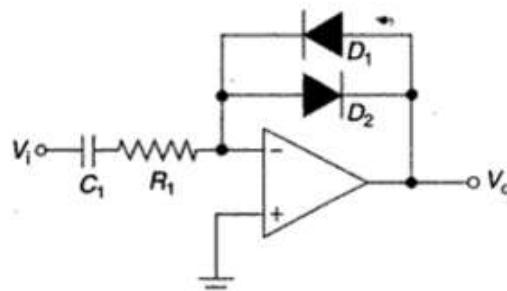

Figure 17.69: Non-linear amplifier
- gain is high due to minimum feedback (Figure 17.69).